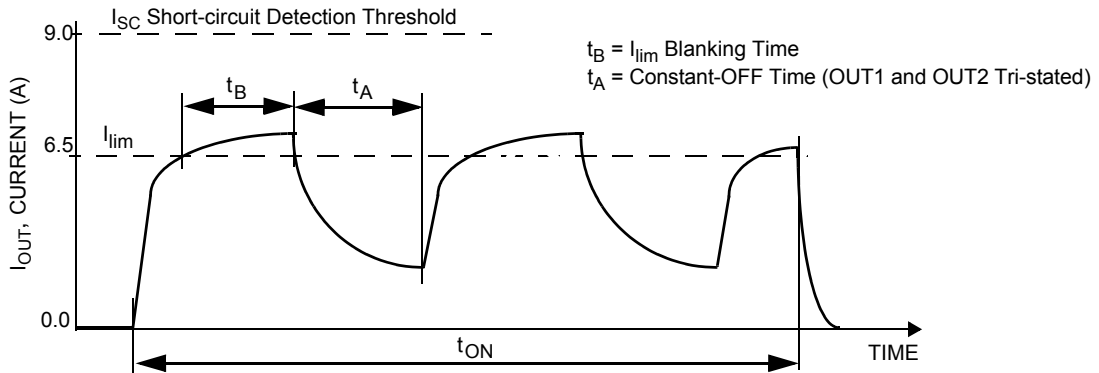
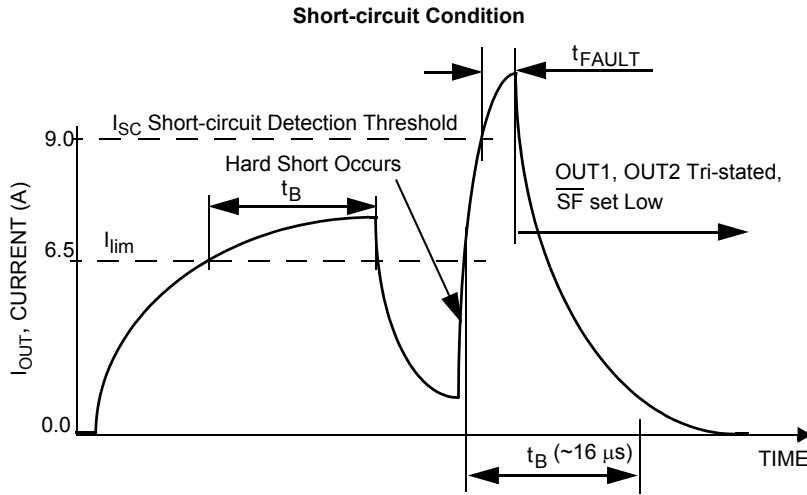
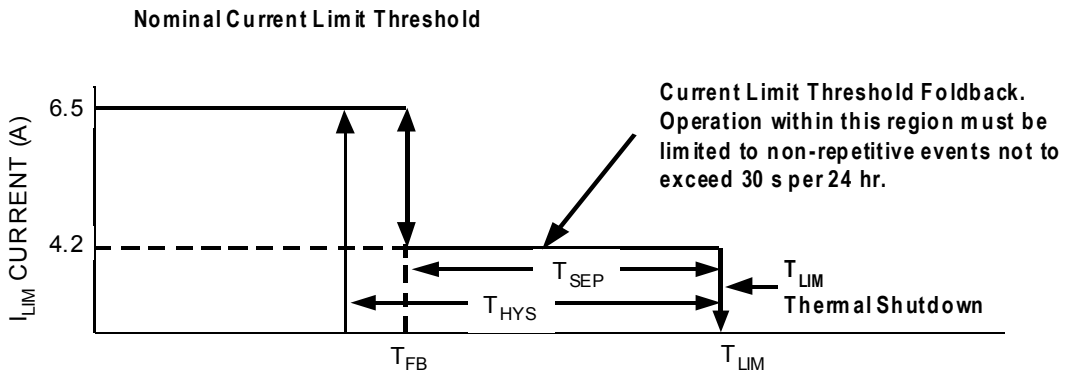

Figure 7. Current Limit Blanking Time and Constant-OFF Time
Figure 8. Short-circuit Detection Turn-OFF Time t_{FAULT}
Figure 9. Output Current Limiting Foldback Region
28. Load currents ramping up to the current regulation threshold become limited at the I_{LIM} value (see Figure 7). The short-circuit currents possess a di/dt that ramps up to the I_{SCH} or I_{SCL} threshold during the I_{LIM} blanking time, registering as a short-circuit event detection and causing the shutdown circuitry to force the output into an immediate tri-state latch-OFF (see Figure 8). Operation in Current Limit mode may cause junction temperatures to rise. Junction temperatures above $\sim 160^{\circ}\text{C}$ will cause the output current limit threshold to “fold back”, or decrease, until $\sim 175\text{ }^{\circ}\text{C}$ is reached, after which the T_{LIM} thermal latch-OFF will occur. Permissible operation within this fold back region is limited to non-repetitive transient events of duration not to exceed 30 seconds (see Figure 9).